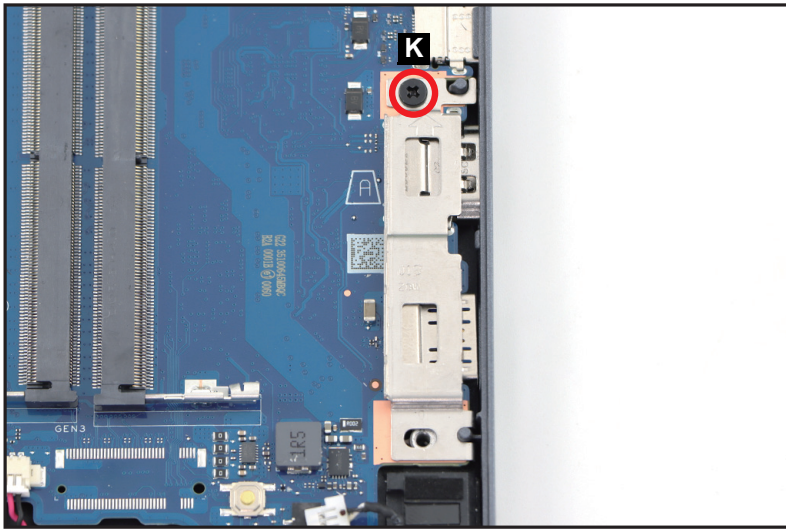

Figure 1-46. Mainboard Removal
10. Remove one (1) screw (K) securing the left I/O bracket (Figure 1-46).